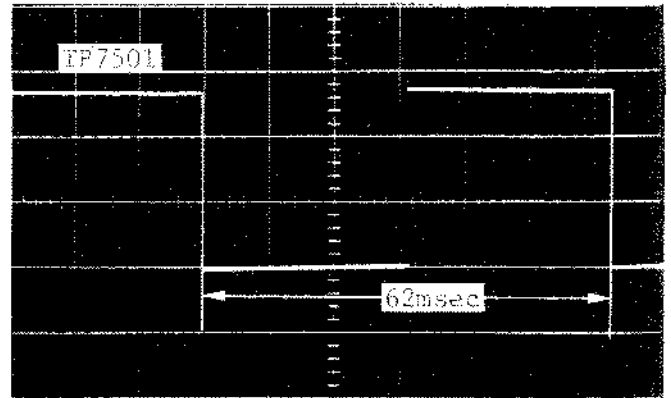

Fig. 42 TP7501 2V/10msec.div.
3. Adjust R7535 for 62msec. (16Hz) as shown in Fig. 42.